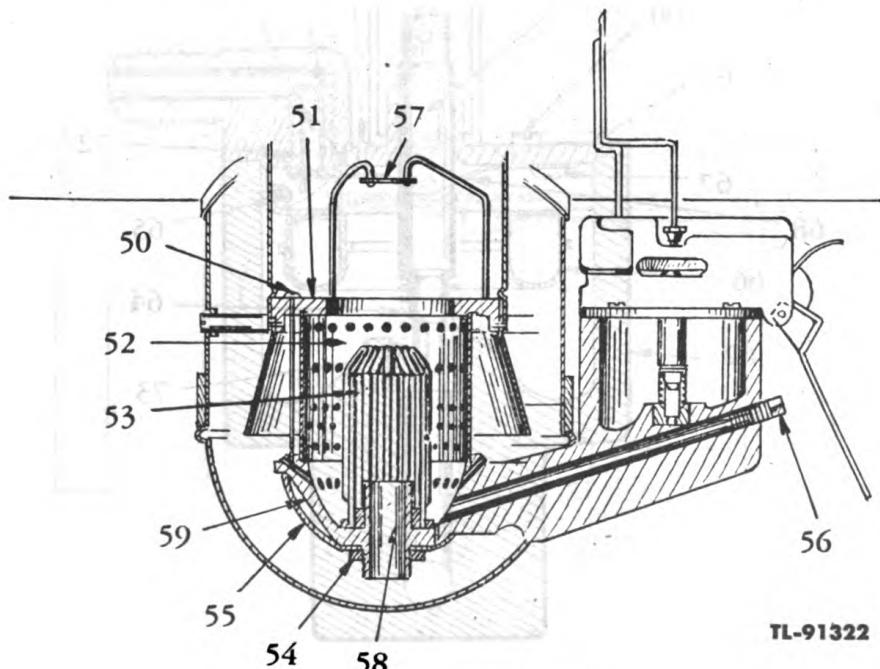

Figure 11. Burner assembly.
17. BURNER DISASSEMBLY (fig. 11). To take burner apart, proceed as follows:
- a.** Remove burner [par. 16a(1) to (6)].
- b.** Remove three bolts (50) holding burner together.
- c.** Remove top ring assembly (51) by lifting off.
- d.** Remove perforated sleeve (52) by lifting off.
- e.** Remove central air distributor (53) by pulling upward.
- f.** Remove lock nut (54) and vaporizer cover (55) will come loose.
- g.** Remove pipe plug (56).
18. BURNER ASSEMBLY (fig. 11). To assemble burner, proceed as follows:
- a.** Replace pipe plug (56) making sure threads are covered with a good grade of pipe dope.
- b.** Put central air distributor (53) in place making sure it is firmly down on boss of vaporizer (58).
- c.** Place perforated sleeve (52) in machined groove in vaporizer (59) making sure small closely spaced holes are facing downward and the large holes are facing upward.
- d.** Place top ring assembly (51) on perforated sleeve (52) making sure perforated sleeve fits into machined groove in top ring casting.
- e.** Turn top ring assembly (51) until the two side holes are directly on the side of the burner, and the three bolt holes line up with the three tapped holes in the vaporizer (59).
- f.** Insert three bolts (50) through the three holes in top ring (51) and screw them firmly and evenly into the three tapped holes in the vaporizer (59).
- g.** Replace vaporizer cover (55) and fasten securely with lock nut (54).
- h.** Reinsert burner into heater [par. 27a (17) to (22)] and [par. 27a (31)].